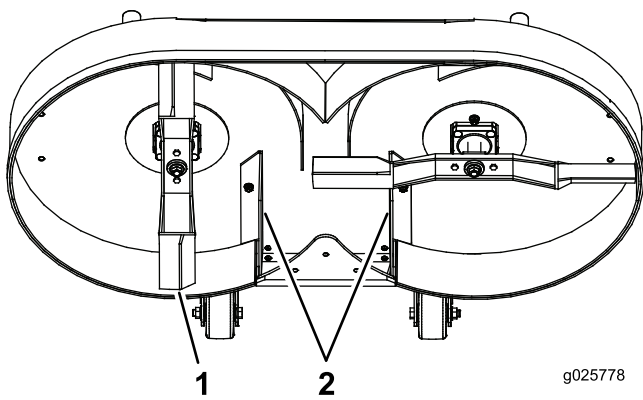

Figure 1
5. Remove the cutoff baffles on each side of the mower deck discharge opening and retain for future use (Figure 1).